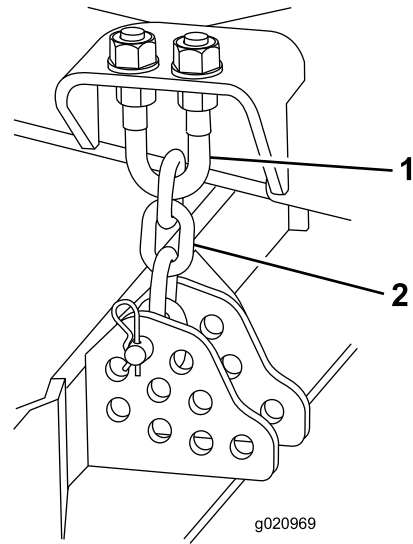

Figure 109
4. Remove the hairpin cotter and clevis pin securing the height-of-cut chains to the rear of the mower deck (Figure 109).